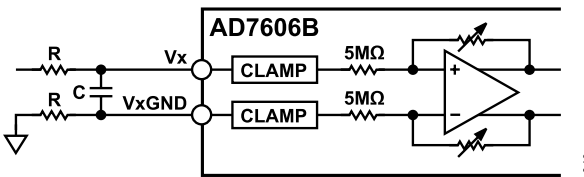

Figure 45. Input Resistance Matching on the Analog Input of the AD7606B
It is recommended to place a series resistor on the analog input channels to limit the current to ± 10 mA for input voltages greater than ± 21 V. In an application where there is a series resistance (R) on an analog input channel, V_{x+} , it is recommended to match the resistance (R) with the resistance on V_{xGND} to eliminate any offset introduced to the system, as shown in Figure 45. However, in software mode, a per channel system offset calibration removes the offset of the full system (see the System Offset Calibration section).